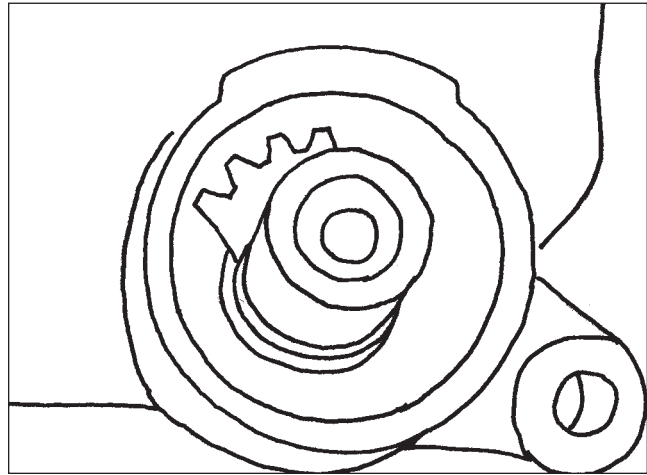

Figure 138
16. It will be necessary to tap the end of the sector shaft with a soft hammer to make sure you have full rack and pinion engagement (**Figure 138**).